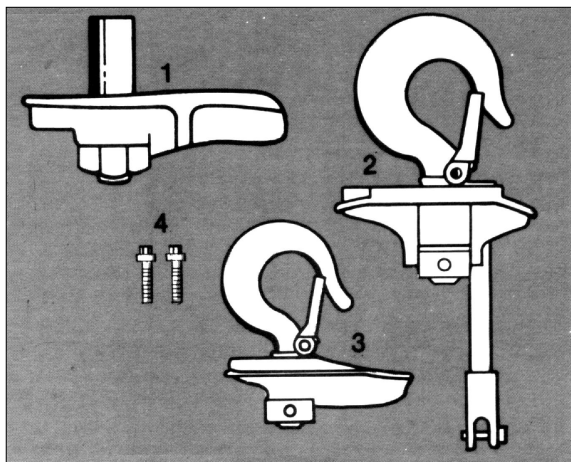

Figure 5. Suspension Assemblies
1. Remove the hook suspension from the carton and the two, 12 point suspension screws from the bag, see Figure 5. The suspension for a double chain hoist (Models WE, WH and WR) includes a dead end bolt and block for supporting the dead end of the load chain as shown in Figure 5.